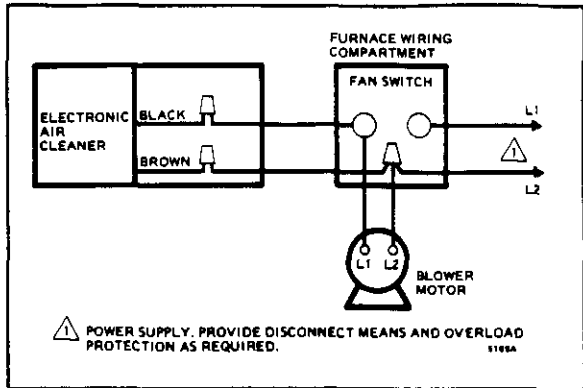

FIG. 21—SINGLE SPEED BLOWER MOTOR. AIR CLEANER IS CONTROLLED BY THE FAN SWITCH AND/OR THE FAN RELAY.
1. If the system blower is driven by a single-speed, single-phase motor, wire the air cleaner into the fan circuit. See Fig. 21.